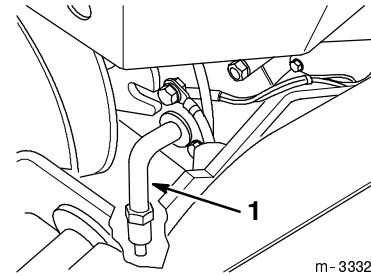

Figure 30
- Open the drain by turning it counterclockwise 1/8 turn and pulling out on it (Fig. 30).